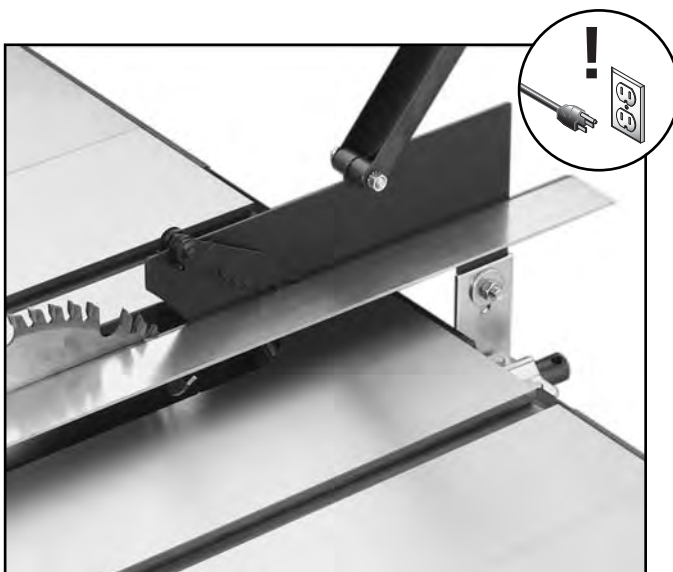

Figure 20. Guard in line with blade.
4. Next, set a straightedge against the face of the saw blade and the blade splitter as shown in **Figure 20**. If the blade splitter is properly aligned, please skip ahead to **Page 26**; otherwise, continue with the next step.